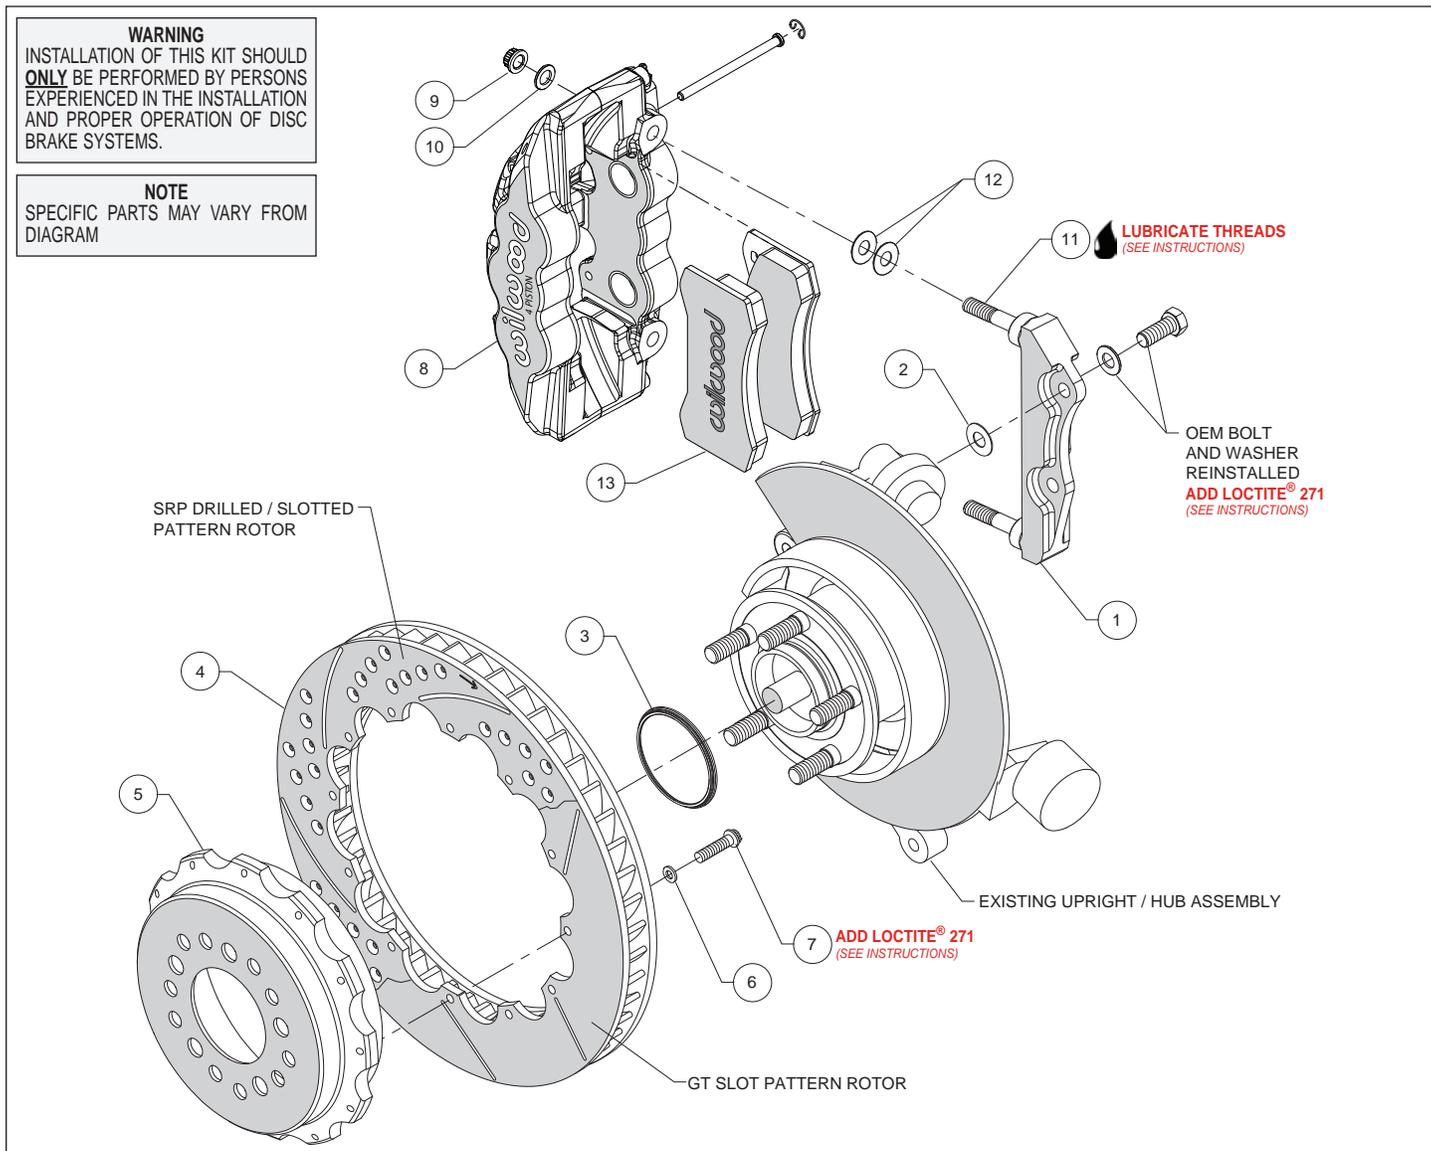
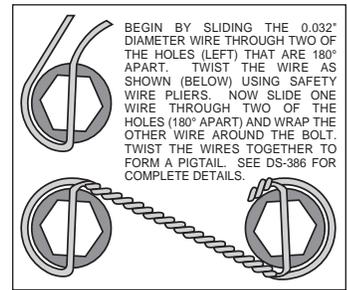

Figure 1. Typical Installation Configuration
Figure 3. Safety Wire Diagram
**Assembly Instructions** (numbers in parenthesis refer to the parts list and Figure 1 on the preceding pages):
- The caliper mount bracket (1) should initially be installed with clean, dry threads on the mounting bolts. Orient the bracket as shown in Figure 1 and install using the saved OEM caliper mount bolts and washers. Initially place one .033" thick shim (2) on each bolt between the bracket and upright, Figure 1. Temporarily tighten the mounting bolts. **NOTE:** *The bracket must fit squarely against the mount bosses on the upright.* Inspect for interference from casting irregularities, machining ridges, burrs, etc. Later, after the caliper alignment has been checked, the mount bolts will be secured using red *Loctite*® 271.
- Orient the rotor (4) and the hat (5) as shown in Figure 1 and Photo 1. Attach rotor to hat using bolts (7) and washers (6). Using an alternating sequence, apply red *Loctite*® 271 to the threads and torque bolts to 155 **in-lb**. For an added measure of security, the bolts may be safety wired using standard 0.032 inch diameter stainless steel safety wire as shown in Figure 3. Please refer to Wilwood's data sheet DS-386 (available at [www.wilwood.com/Pdf/DataSheets/ds386.pdf](http://www.wilwood.com/Pdf/DataSheets/ds386.pdf)) for complete safety wire installation instructions.
- Slide the rotor registration adapter (3) onto the axle register on the axle hub with the smaller O.D. facing outward, Photo 2. Slide the hat/rotor assembly onto the axle hub. **NOTE:** *The hat must fit flush against the axle hub flange or excessive rotor run out may result.* Install three lug nuts (finger tight) to keep the hat/rotor assembly in place while continuing with the installation.
- Lubricate the caliper mounting studs (11) with lightweight oil. Initially place two .030" thick shims (12) on each stud between the caliper and the bracket, as shown in Figure 1 and Photo 3. Mount the caliper (8) onto the bracket (1) using lock nuts (9) and washers (10), Figure 1. Temporarily tighten the lock nuts and view the rotor through the top opening of the caliper. The rotor should be centered in the caliper, Photo 4. If not, adjust by adding or subtracting shims (2) between the bracket and the upright. Always use the same amount of shims on each of the two mounting bolts. Once the caliper alignment is correct, remove the bracket mounting bolts one at a time, apply red *Loctite*® 271 to the threads, and torque to 65 ft-lb.
- Remove the two pad retaining pins from the caliper (8) by carefully popping out the pin retaining clips and sliding out the pins. Insert the brake pads (13) into the caliper from the bottom, Figure 1 and Photo 5. With the friction material facing the rotor, secure the brake pads in place with the pad retaining pins and clips, Photo 6. Reinstall the caliper onto the caliper mounting bracket and temporarily tighten the lock nuts. Check that the top of the brake pad is flush with the outside diameter of the rotor, Photo 8. If not, adjust by adding or subtracting shims (12) between the caliper and the bracket. After the caliper pad height is set, torque the caliper lock nuts (12) to 47 ft-lb.